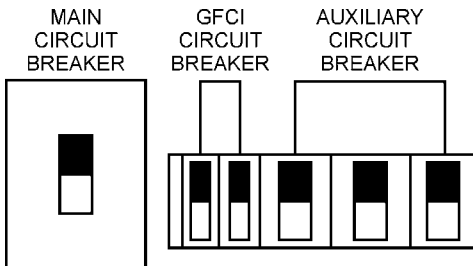

Figure 55. Main, Aux. and GFCI Circuit Breakers (ON)
14. Place the **main, GFCI, and aux.** circuit breakers in the **ON** position (Figure 55).